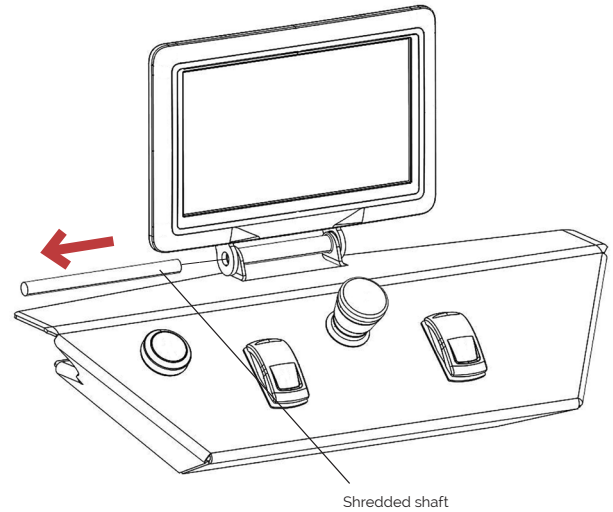

FIGURE 6
2. Remove threaded shaft, see fig: 6